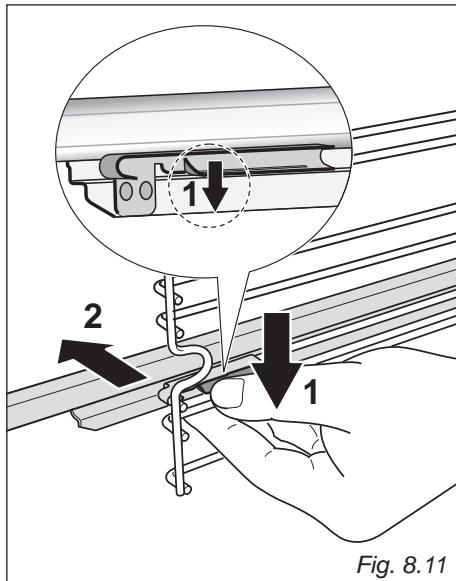

Fig. 8.11
- Find the safety locks. These are the tabs that clip over the wire of the side rack (arrow 1 in fig. 8.11).
- Pull the safety locks away from the wire to release the wire (arrow 2 in fig. 8.11).